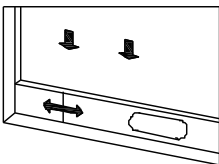
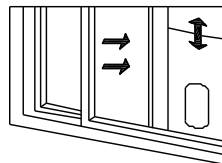

Figure 2
Figure 3
2. Half open the window, and mount the window sealing plate assembly to the window (as shown in Figure 2 and Figure 3); the assembly can be placed in horizontal and vertical directions depending on your need.